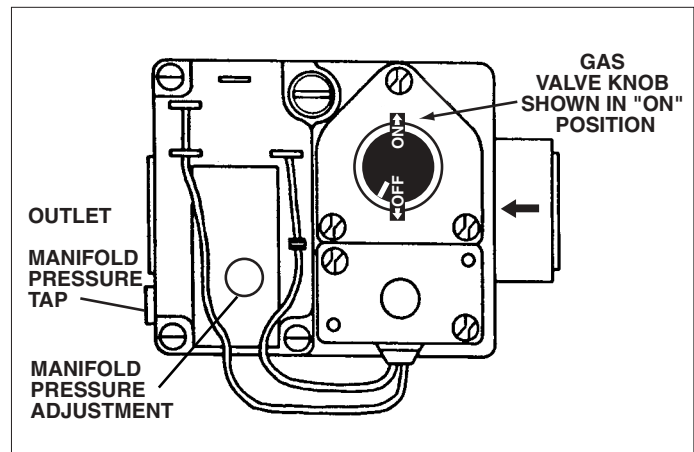

Figure 3. Gas Valve
4. With a 3/16" Allen wrench, remove the manifold pressure tap plug located on the outlet side of the gas valve. Refer to Figure 3.
10. Allow the furnace to operate for three (3) minutes and then check the manifold pressure. For LP gas installations, the manifold pressure should be set to 9.5" WC. If the manifold pressure is not set to the appropriate pressure, then it must be adjusted.
1. If the manifold pressure must be adjusted, then remove the protective cap from the top of the gas valve regulator, as shown in Figure 3.